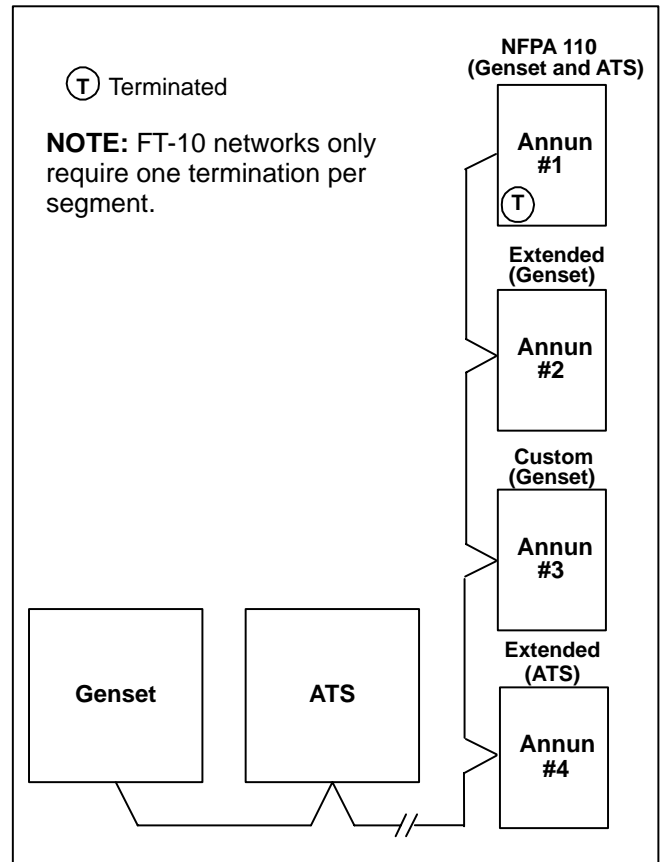

FIGURE 2. SELF-INSTALLED NETWORK REPRESENTATION
- All devices in the system have the ability to self-install to an FT-10 network (see Figure 2). The following genset and ATS devices have the ability to self-install: